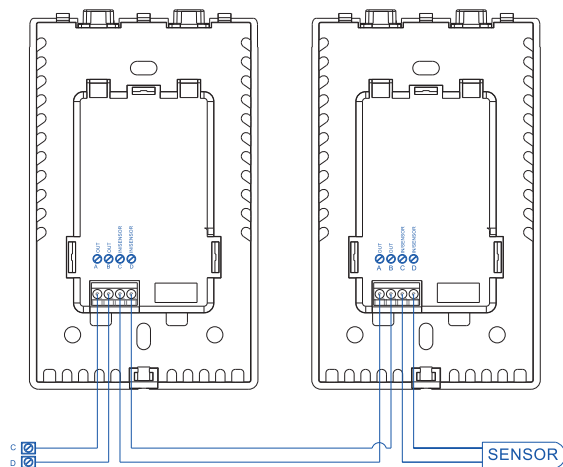

Figure 5
- If you wish to connect a remote control device, see figure 5.